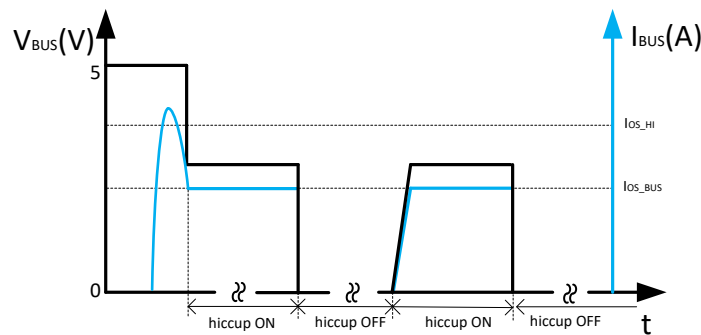

图 10-13. BUS Overcurrent Protection: Two-Level Current Limit
- The third condition is the load current increases just over the I_{OS_HI} setting. In this case, the load current does not trigger the fast turnoff. The USB power switch current limit threshold is set back to the primary current limit, I_{OS_BUS} , immediately. If the load still demands a current greater than I_{OS_BUS} , the USB output voltage decreases to $I_{OS_BUS} \times R_{LOAD}$ for a resistive load, which is shown in 图 10-13. If the overcurrent limit condition lasts longer than 4.1 ms, the corresponding USB channel enters hiccup mode with 524 ms of off-time and 4.1 ms of on-time. Another USB channel still works normally.